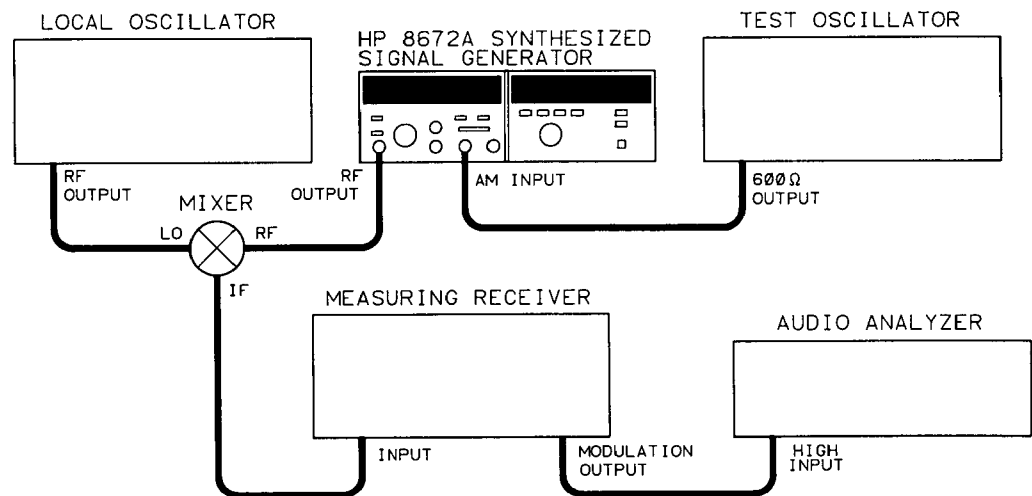

Figure 4-18. AM Distortion Test Setup
1. Connect the equipment as shown in Figure 4-18.